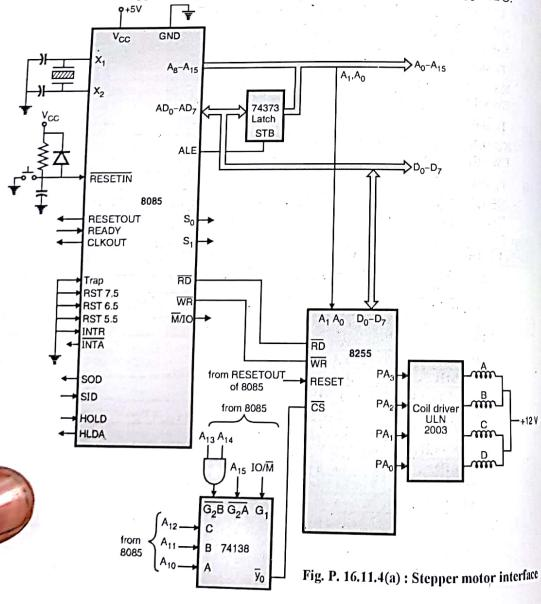

Fig. P. 16.11.4(a) : Stepper motor interface
Step 3 : The interfacing diagram of stepper motor using 8255 will be as shown in Fig. P. 16.11.4(a).